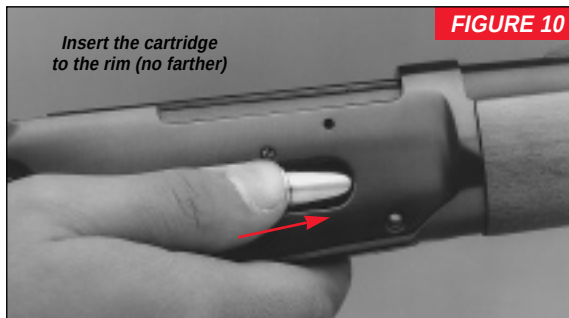

FIGURE 10
1. With the action closed and the manual hammer stop in the "on" position and the hammer in the safety (rebound) position, press the spring cover inward with the tip of the first cartridge until all but the rim has entered the loading port (See Figure 10).